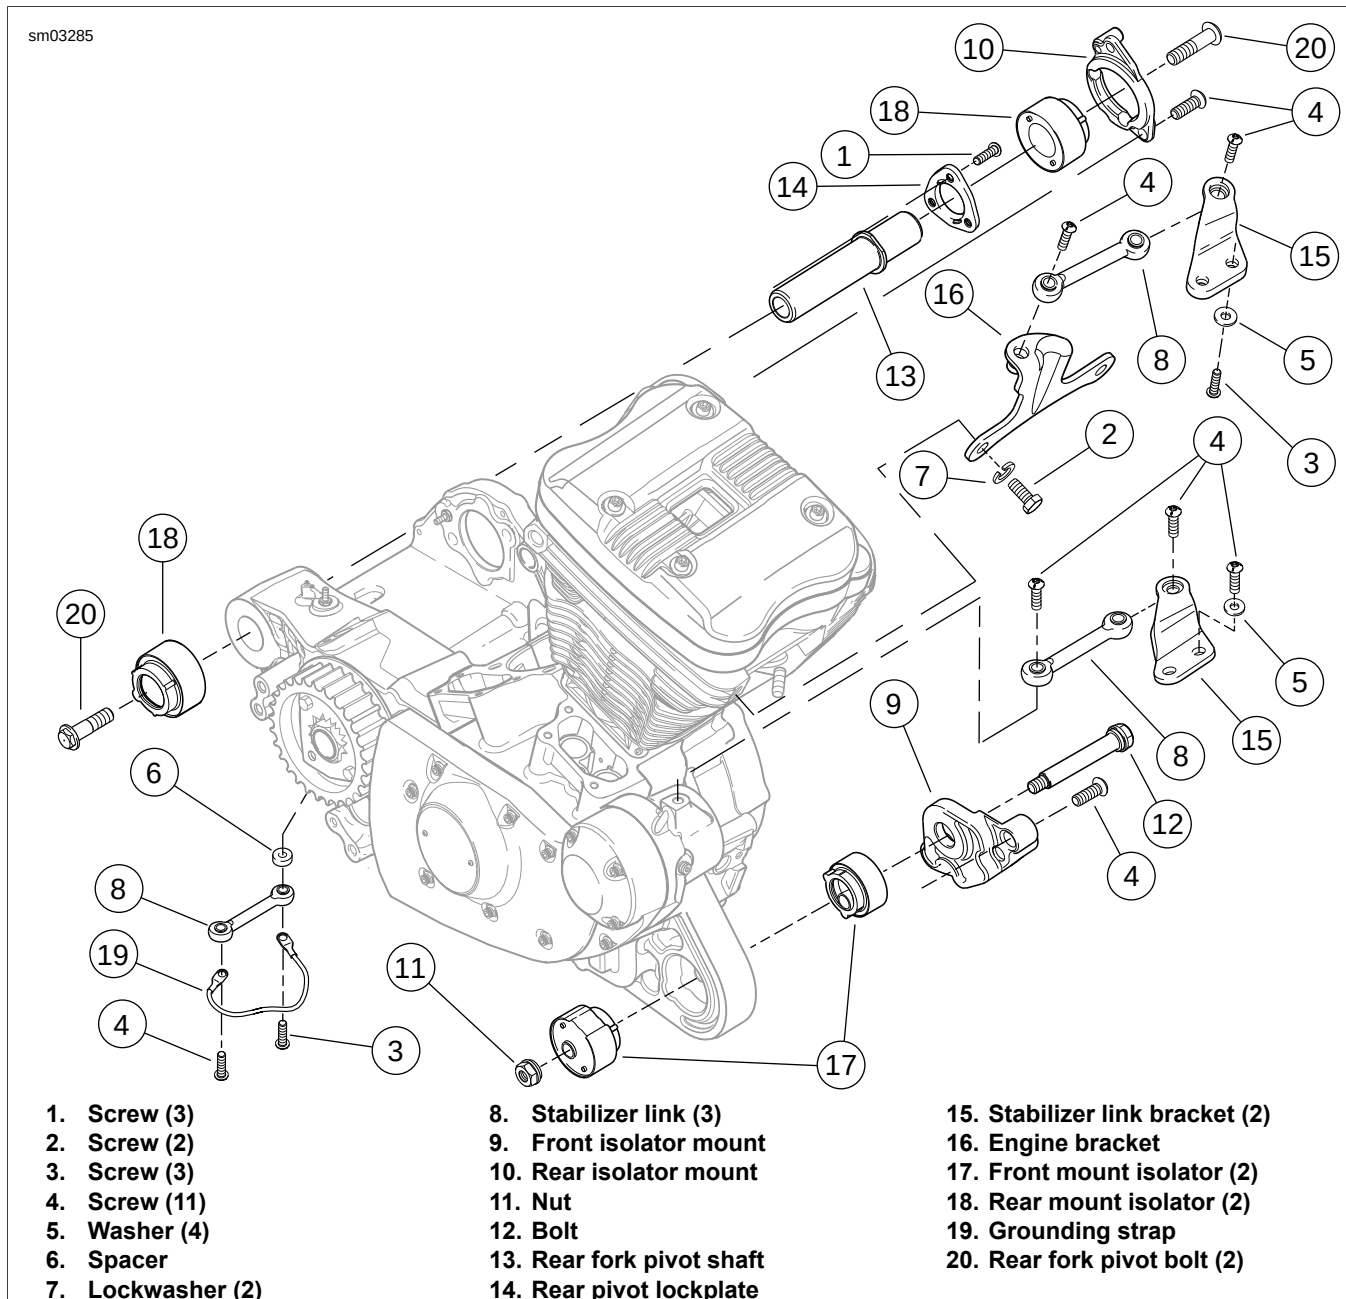

Figure 1-66. Engine Mounting Assemblies: All Models (typical)
1. See Figure 1-66. Check for cracks or tears in engine mount isolator rubber (17, 18).
2. Check for lateral movement at each end of the three stabilizer links (8). Any lateral movement indicates the need to replace the stabilizer link. Rotational movement does not indicate excess wear.